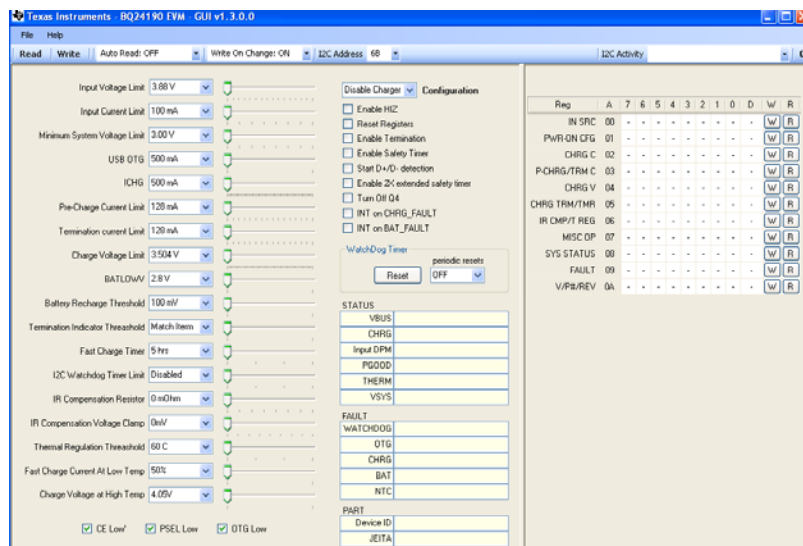

Figure 3. The main window of the GUI for TIDA-00036 module (bq24195/195L EVM).
H) Turn on the computer. Launch the TIDA-00036 (bq24195/195L) evaluation GUI. The main window of the GUI is shown in Figure 3.